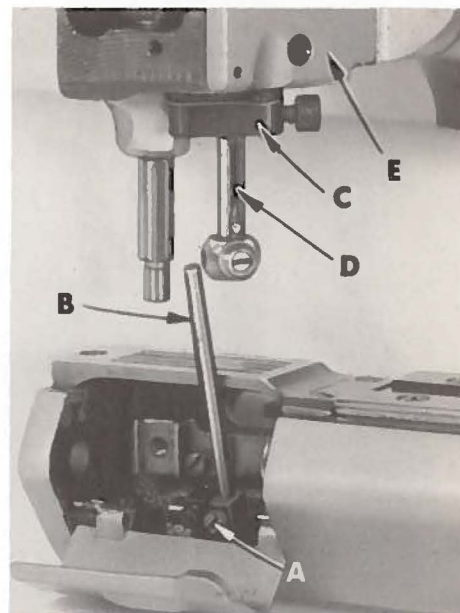
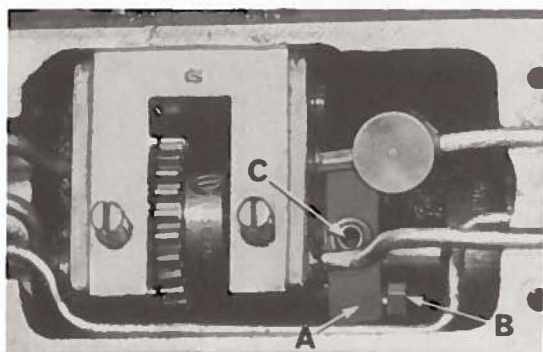

Fig. 2
Fig. 3
To synchronize the machine, remove the needles, presser foot, throat plate and feed dog. Rotate the handwheel in operating direction until the needle bar is at the bottom of its stroke and just begins its upward travel. Loosen screw (A, Fig. 2) and remove the looper for the left hand needle from the looper holder. Insert a straight steel rod (B) (5/32 or 11/64 inch diameter by 2 1/2 inches long) into the looper holder and retighten screw (A). It may be necessary to re-position the looper holder so that the rod (B) will be in a vertical position when at its farthest travel to the right. Continue to turn the handwheel until the rod is at extreme left, replace the throat plate. Turn the handwheel in operating direction, raising the needle bar until rod (B) contacts the edge of the throat plate. At this point, clamp Union Special timing gauge (C) No. 21225 H around the needle bar (D) flush against the underside of the machine casting (E). Rotate handwheel in the opposite direction until the gauge contacts the machine casting on the upstroke of the needle bar or the rod contacts the edge of the throat plate. Maximum allowable clearance between gauge and machine casting or rod and throat plate is .005 inch.
Both ends of the adjustable split coupling are secured to the crankshaft and main shaft by spot screws and set screws. On the main shaft end of the coupling (A, Fig. 3) three screws (B) thread through the coupling. The holes in the main shaft end of the coupling are drilled several thousandths larger than the diameter of the screws, allowing several degrees of rotation in either direction to properly synchronize the needle and the looper. Loosen the three horizontal clamp screws (B, Fig. 3) and with the rod (B, Fig. 2) at its farthest position to the left, barely tighten the uppermost horizontal clamp screw enough to hold the coupling
(A, Fig. 3) in position. If the handwheel is turned in reverse of operating direction and the gauge (C, Fig. 2) on the needle bar (D) contacts the machine casting (E) before the rod (B) contacts the edge of the throat plate, loosen the horizontal clamp screw which was barely tightened, while holding the coupling in place with an Allen wrench in the set screw (C, Fig. 3). Rotate the handwheel SLIGHTLY in reverse of operating direction, snug-up the uppermost horizontal clamp screw and use a shim gauge to insure no more than .005 inch exists between gauge and casting or rod and throat plate in both, operating and reverse directions of handwheel. If the handwheel is turned in reverse of operating direction and the rod contacts the edge of the throat
plate before the clamp gauge contacts the machine casting, adjust as before, except turn the handwheel SLIGHTLY in the operating direction while holding the main shaft end of the coupling with the Allen wrench in the set screw. After this adjustment has been accomplished, tighten the three horizontal clamp screws (B, Fig. 3) securely, recheck both clearance points with a .005 inch shim gauge to assure no slippage occurred while tightening the screws.